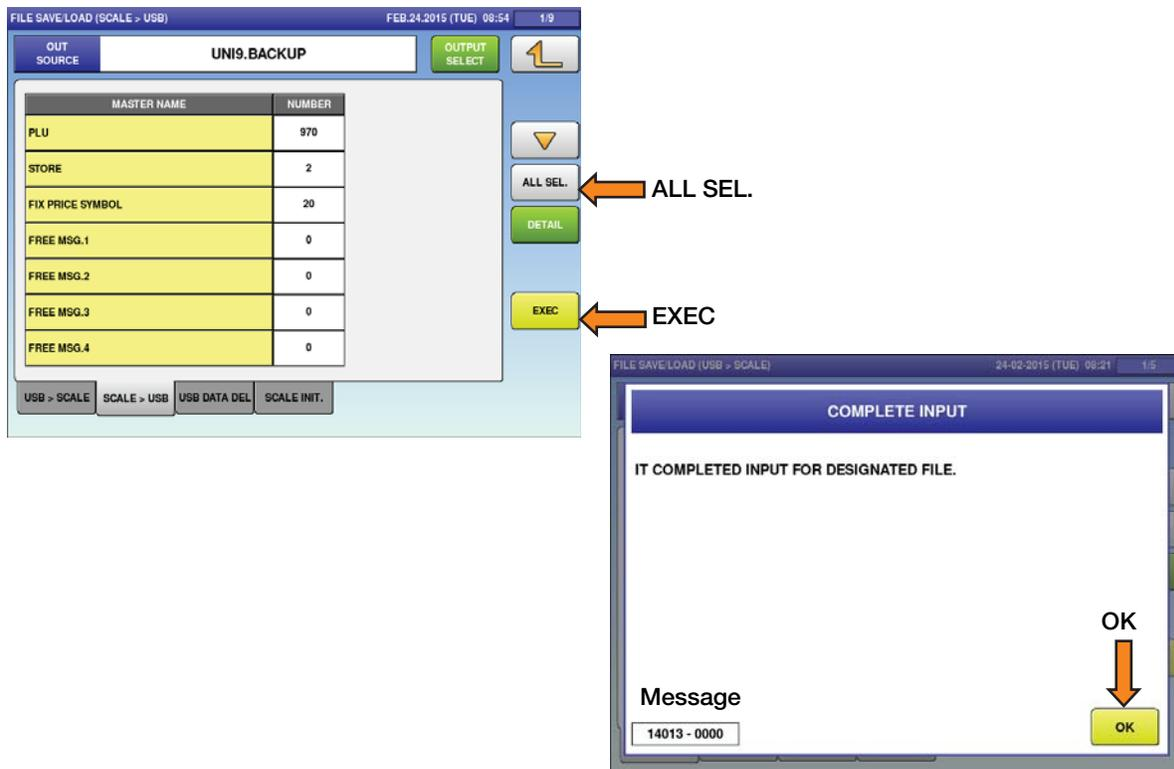

Figure 2-6. Select All Files and Output to USB Memory Stick
12. Press the **ALL SEL.** to select all files for output. See Figure 2-6.